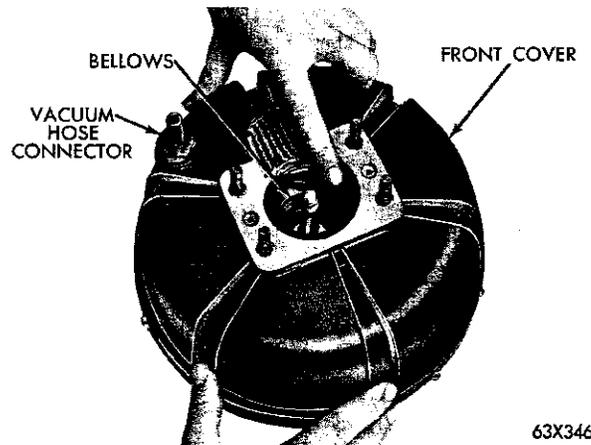

Fig. 25—Unseating the Bellows Seal
- (1) Remove the four master cylinder attaching nuts and remove the master cylinder.
- (2) Scribe an aligning mark across the joint of the front and rear portions of the booster assembly. This will insure correct alignment during reassembly.
- (3) Remove the dust boot from the operating rod.
- (4) Remove the two filter cover retaining screws.
- (5) Remove the filter cover and filter.
- (6) Working from the front of the unit, push the outer lip of the bellows assembly into the vacuum chamber (Fig. 25).